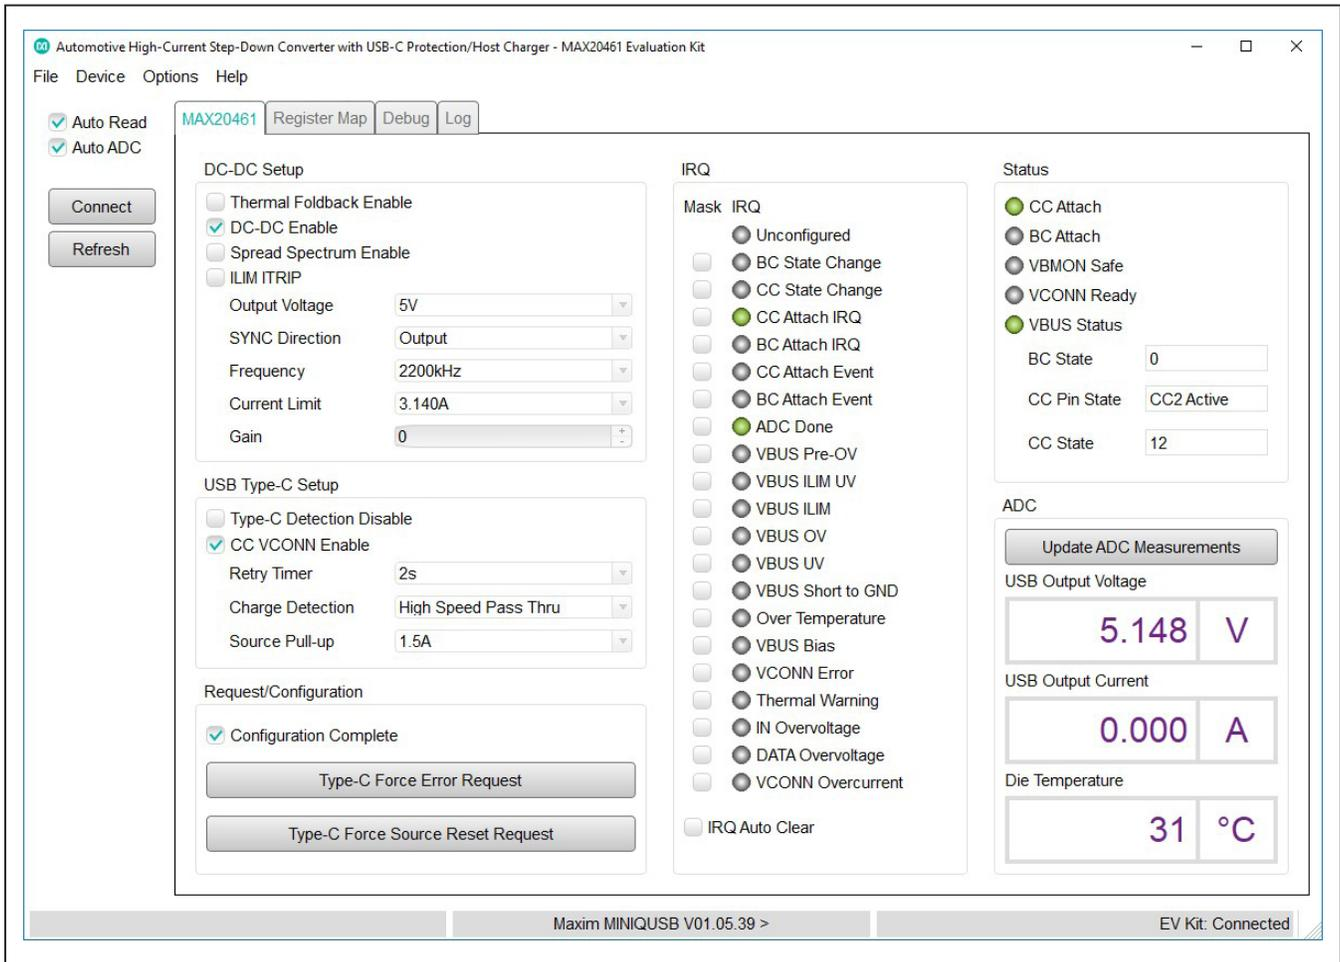

Figure 4. MAX20461 GUI Configured
12) The USB output voltage should display approximately 5.15V, as seen in Figure 4.